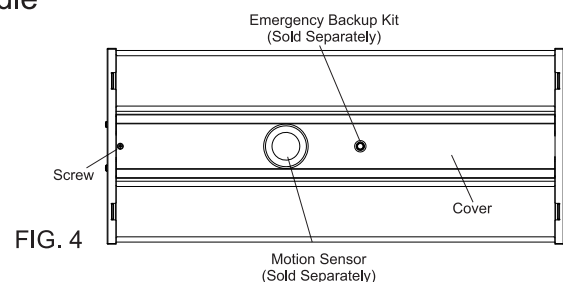

FIG. 4
7. Installing SENSOR/DIMMER. Take off the cover at the front, install sensor/dimmer (sold separately) in the middle knock-out and follow wiring instruction of the sensor/dimmer. Same as the Emergency Backup kit. Fig 4.